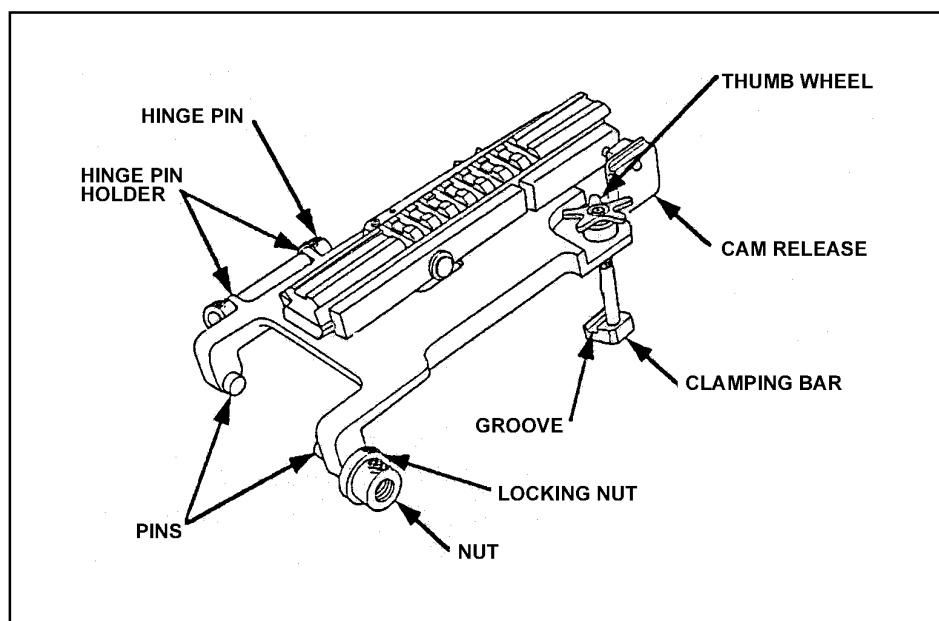

Figure G-30. M60 bracket.
- (b) Loosen the locking nuts on the front of the MWTS mounting bracket (Figure G-30, page G-31).